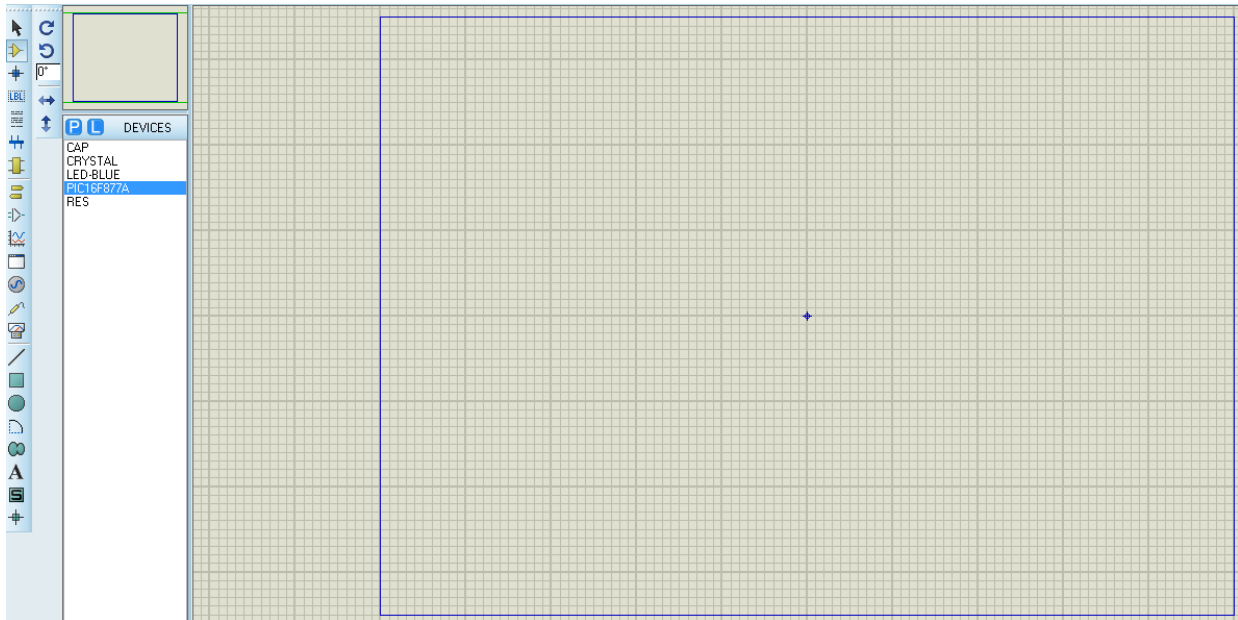

Figure 2: Proteus ISIS Components List
4. Pick the components **CAP**, **CRYSTAL**, **LED-BLUE**, **PIC16F877A** and **RES** as listed in Figure 2.